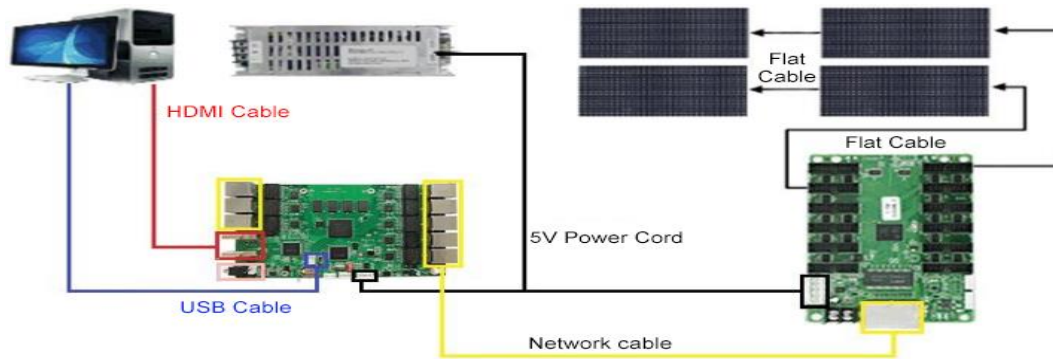

Figure 3-1: Hardware Connection Diagram
Step 1: To get the sending card installed into the slot of the PC's Main board or the external sending enclosure(or other devices with independent power supply) and to get the DVI & USB cable all connected, as shown in figure 3-1.